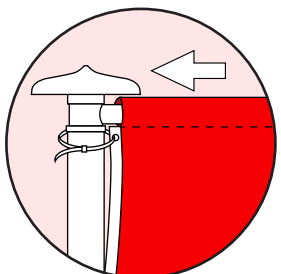

Fig 9.
12. Slide top sleeve on flag over the arm. Secure plastic ties through the eyelets and around the pole. (Fig 9) DO NOT OVER-TIGHTEN.